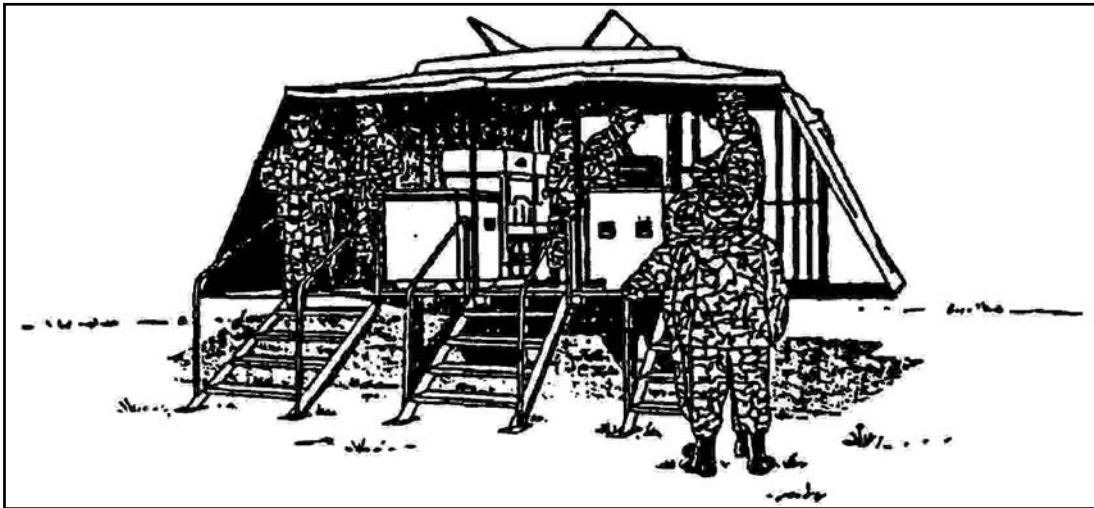

Figure 3-33. Trailer-mounted Field Kitchen With U-shaped Serving Line
- (3) U-shaped (MKT) (see Figure 3-33, page 3-92).